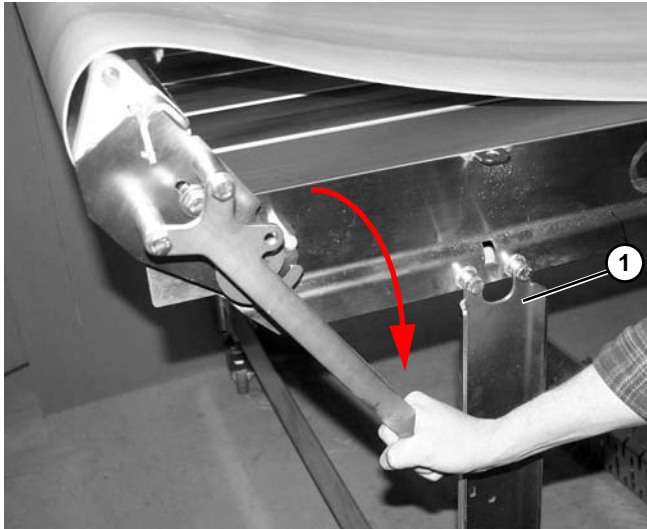

Figure 48
- When mounting tip up handle in back position, be aware of the clearance that is needed with stand (Figure 48, item 1) to allow full rotation of the handle.